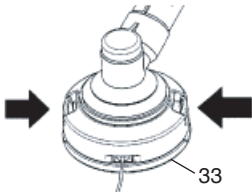

Fig. 29
(1) Remove the case (33) by firmly pushing inward the locking tabs with your thumbs as shown in Fig. 29.